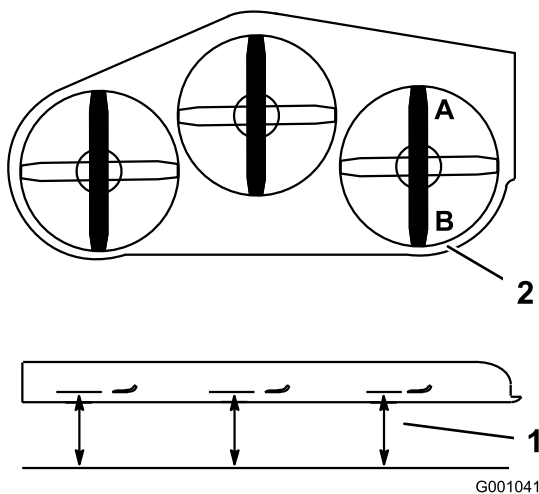

Figure 87
2. Position 1 blade front-to-rear. Measure at **A** and **B** locations from a level surface to the cutting edge of the blade tips (Figure 87).